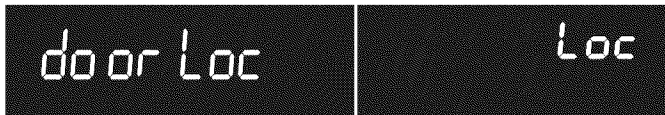

Figure 19: Display showing door locking (L) and in locked (R) position
2. Press and hold **Oven Lockout** for 3 seconds. **door Loc** will appear in the display (See Figure 19). The motor driven door latch mechanism will begin locking the oven door automatically. Do not open the oven door. Allow about 15 seconds for the oven door to completely lock. Once door is locked, **Loc** will appear in the display.